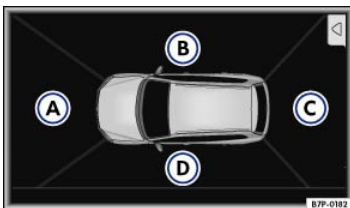

Fig. 164 Display of the Area View: Bird's eye view.
There are 4 different camera views ⇒ *Fig. 164* :
Select the different camera views by tapping the individual areas in the bird's eye view ⇒ *Fig. 164* **A** to **D** or mini bird's eye view ⇒ *Fig. 165A*.
- **Bird's eye view**: For an all-round view of the vehicle , also for off-road driving . The bird's eye view is shown on the full screen ⇒ *Fig. 164*.
Manually activate display:	Press button → Fig. 166. The bird's eye view is activated on the Infotainment System screen → Fig. 164. The display will not switch on at speeds above about 9 mph (15 km/h).